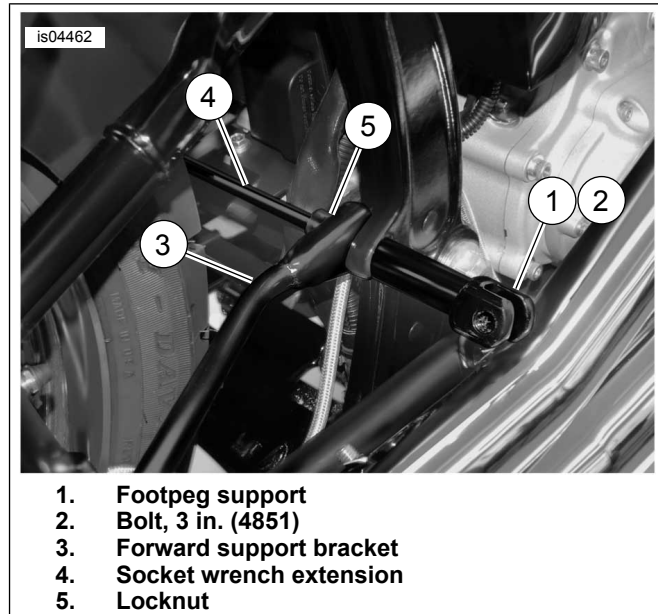
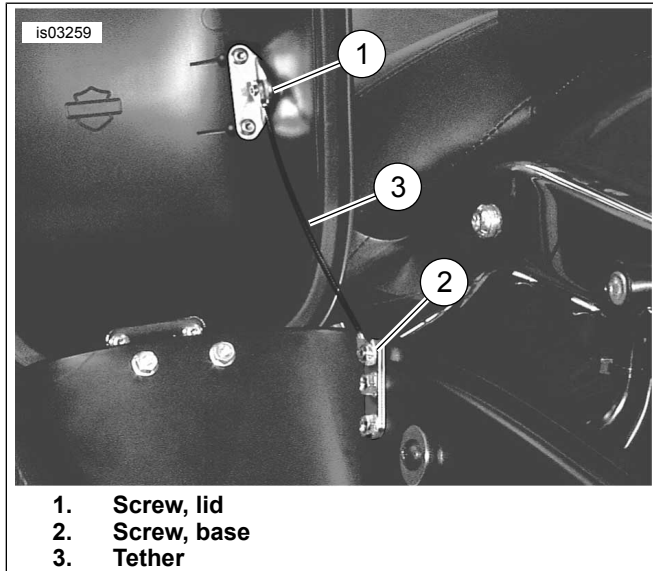
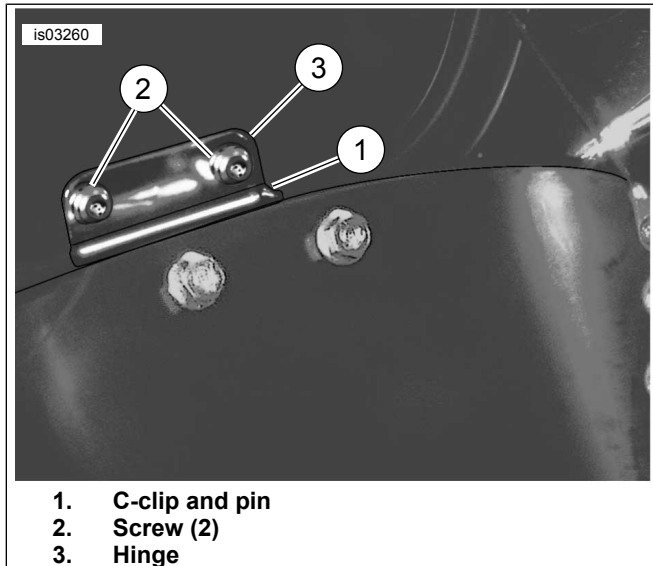
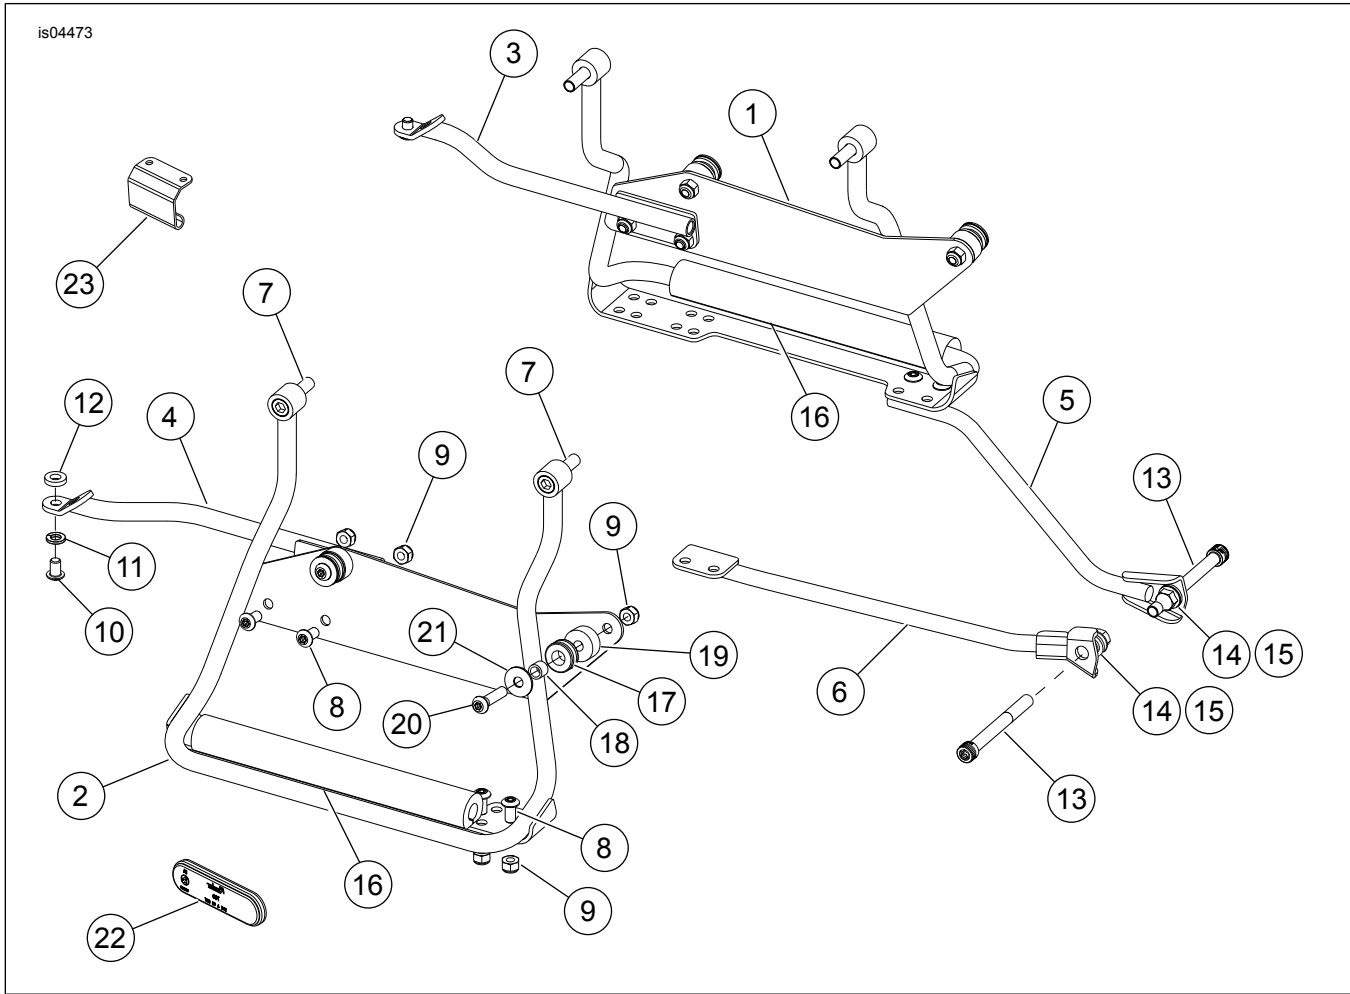

Figure 11. Install Forward Support Bracket and Footpeg Support (Right Side Shown)
Figure 17. Remove Tether
Figure 18. Remove Hinge
Figure 19. Service Parts: Saddlebag Bracket Kit (90227-06A) and Hardware Kit (90052-03A)
1. See Figure 11. Align footpeg support (1) with hole in frame.
2. Insert bolt (2) through footpeg support and frame. Threads should be exposed approximately 1/2 in. on inner side of frame.
3. Install forward support bracket (3) onto bolt.
4. Install shoulder washer (See Figure 19, Item 14) with shoulder oriented toward bracket.
5. Using socket wrench extension (4) install nut (5) onto bolt and finger tighten.
1. See Figure 19. Install two screws (8) through saddlebag support hangers (1, 2) and into forward support bracket (5, 6). Secure with nuts (9). Tighten nuts to 10 ft-lbs (13.1 Nm).
2. Tighten nuts (15) on forward support bracket (3) to 25-30 ft-lbs (34-41 Nm).
3. Install rubber isolator (16) over saddlebag support hangers (1, 2) with "flat" side facing down.
- See Figure 19. Install screw (20) and washer (21) from side saddlebag, through spacer (19). Then install nut (9), finger tight.
- See Figure 17. Remove screws (1, 2) securing tether to saddlebag lid and base.
- Remove tether (3) from saddlebag.
- See Figure 18. Remove and save C-clip and pin (1) from hinge. Separate saddlebag lid from body.
- Remove and save two screws (2) securing hinge to saddlebag lid.
- Slide hinge (3) out from under rubber seal.
- See Figure 19. Slide hinge (23) under rubber seal and fasten hinge half to saddlebag lid using screws (Figure 18, Item 2) previously removed. Tighten screws securely.
- See Figure 18. Install pin to hinge and secure with C-clip.